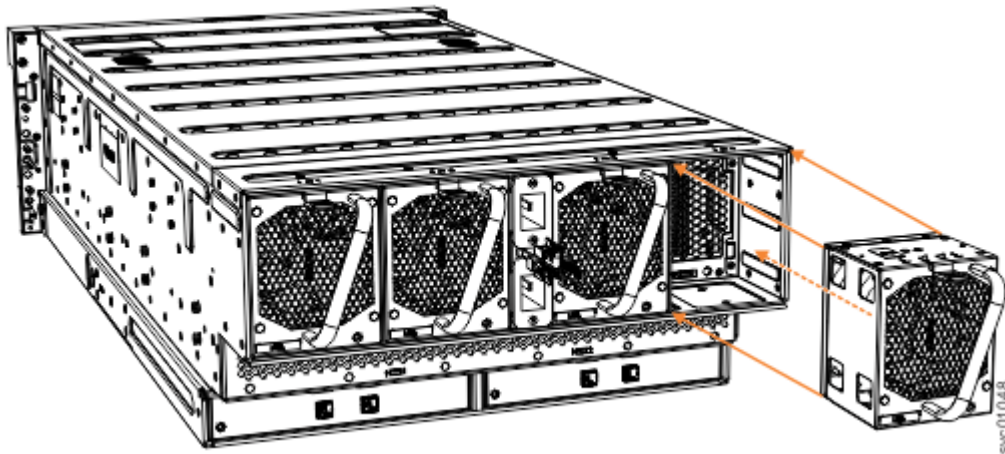

Figure 181. Remove and replace a fan module
3. Use the handle to pull the fan module out of the expansion enclosure chassis, as shown in Figure 181 on page 208.
6. Carefully insert the fan module into the chassis until it clicks in place, as shown in Figure 181 on page 208.